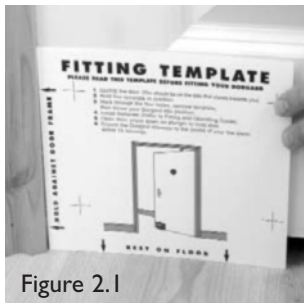

Figure 2.1
Follow Illustrations Fig 2.1 - 2.6 below.
- 1) Close the fire door. Place the template provided against the door on the side that shuts against the door frame. Ensure the template matches your view of the door. **(Fig 2.1)**